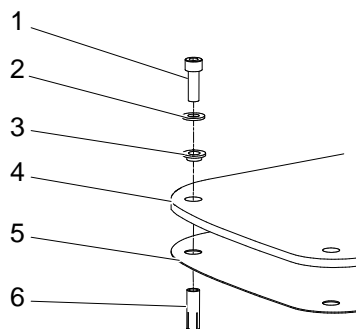

Fig. 4-64 Temporarily attachment
7. Mount the insulation washer (5) between the plate and the floor.
9. Drill just 1 hole (C) in accordance with **Fig. 4-64**.